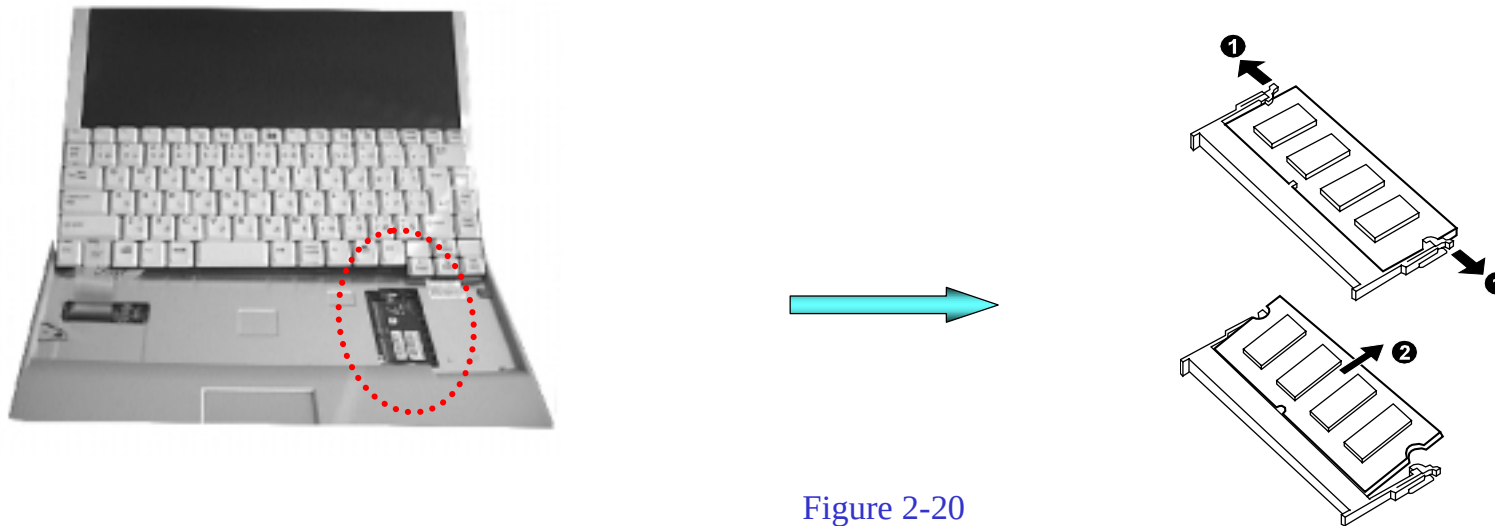

Figure 2-20
2. Pull the retaining clips outwards (❶) and remove the SO-DIMM (❷). (figure 2-20)